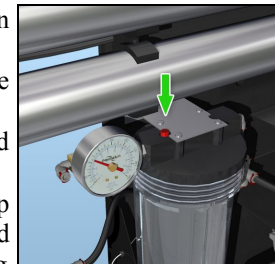

Figure 13. Press red button on filter
4. Press the red button on top of your pre-filter and observe the pre-filter filling up with water; see figure 13.